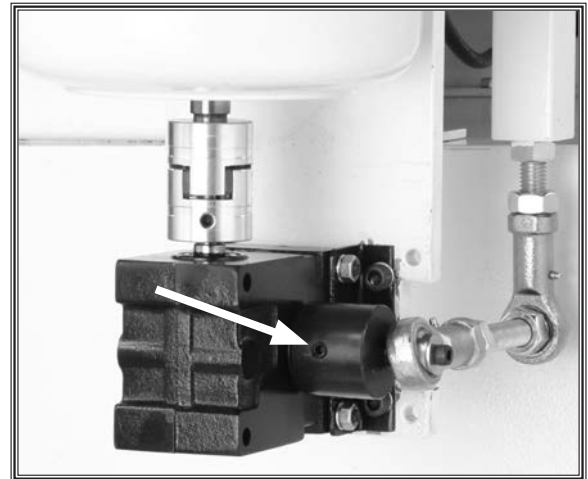

Figure 36. Eccentric set screw.
2. Tighten the set screw on the eccentric, shown in **Figure 36**.